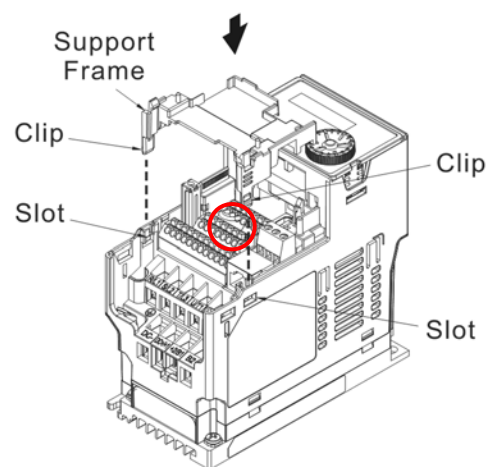

Figure 8-17
3. Assembling support frame: as shown in the Figure 8-17, aim the two clips at the two slots on the motor drive and then press downward to have the two clips engage the slots.